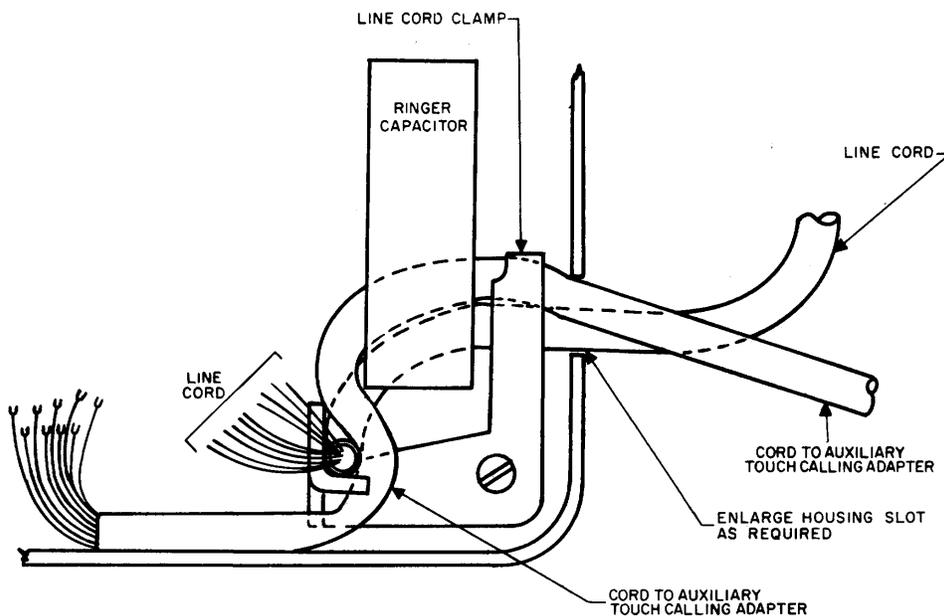

Figure 6. Routing and Securing Cord from Auxiliary Touch Calling Adapter to Type 85 Telephone.
- (a) Route and secure the adapter's cord to Type 85A, 85B or 85C Telephone as shown in Figure 6.